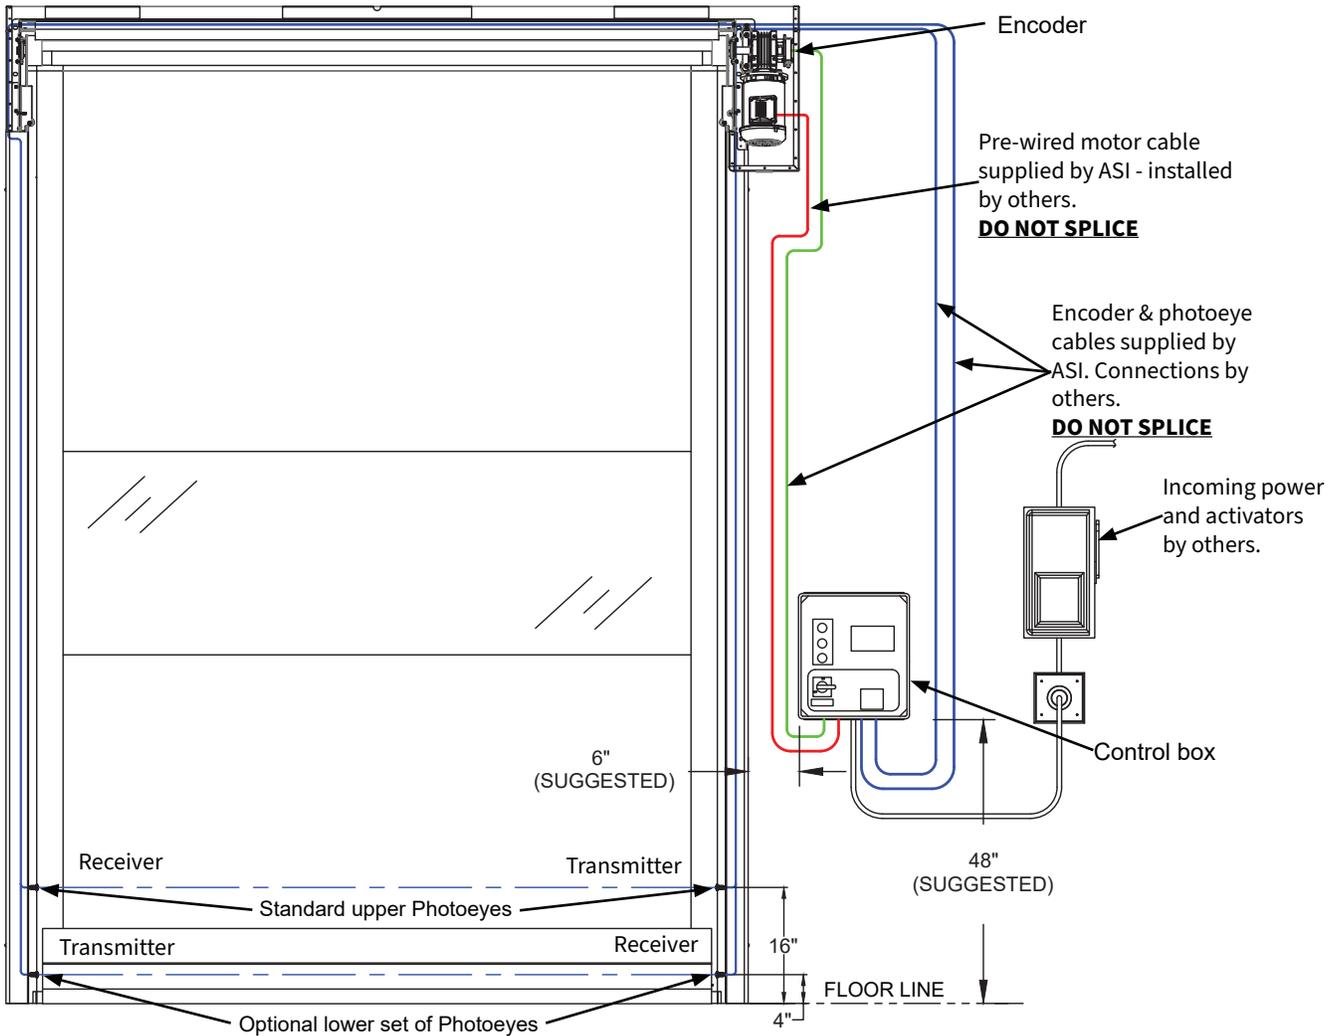

Figure 17: Wiring layout.
1. Pre-wired cable from motor must not be spliced. Run this cable to control box (Figure 17).